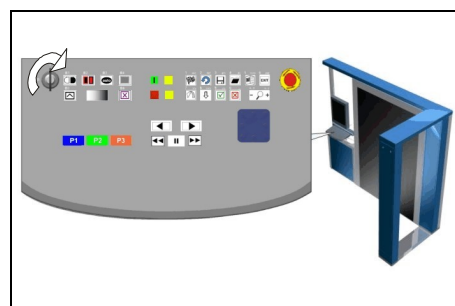

Fig. 7: Keyboard
- ▷ Turn the key switch of the eqo system clockwise (into position II) in order to switch on the unit (see Fig. 7). The key switch will backslide automatically to position I.